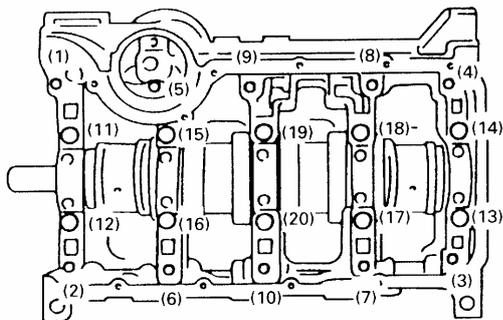

Fig.4-140
- (A): Flywheel lock tool
- 8) According to the order as shown in Fig. 4-140, loosen crankcase bolts a little every time, disassemble crankcase.